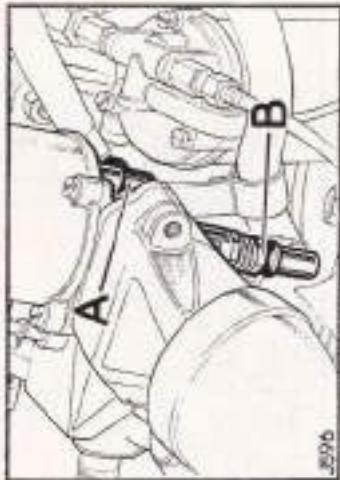

Fig. 10 Carburettor mixture adjustment screw
9. Check the mixture on each carburettor separately by lifting the carburettor piston approximately  $\frac{1}{8}$  in. (1 mm) by means of the lift pin (A) Fig. 10, situated on the front of the carburettor body. There is approximately  $\frac{1}{16}$  in. (4.5 mm) free movement of the lift pin before it contacts the piston.
10. If the engine speeds up immediately the mixture is too rich and the mixture adjustment nut (B) Fig. 10, must be screwed up, thus weakening the mixture; if the engine speed decreases immediately the mixture is too weak and the mixture adjustment nut should be unscrewed to enrich the mixture. In either case turn one flat at a time and check after adjustment. If the engine speed momentarily increases very slightly the adjustment is correct.